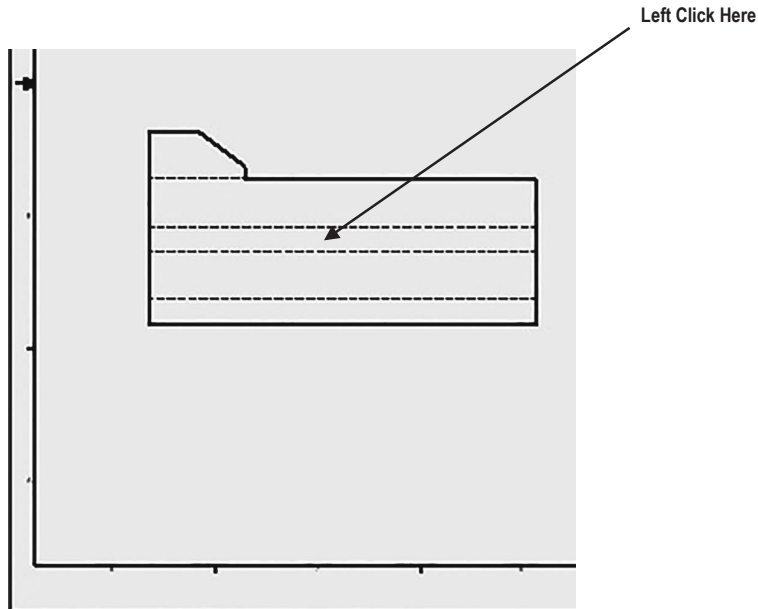

Figure 16
20. Place the part just above the title block that is in the lower right corner of the screen and left click once. This will place the part as shown in Figure 16.